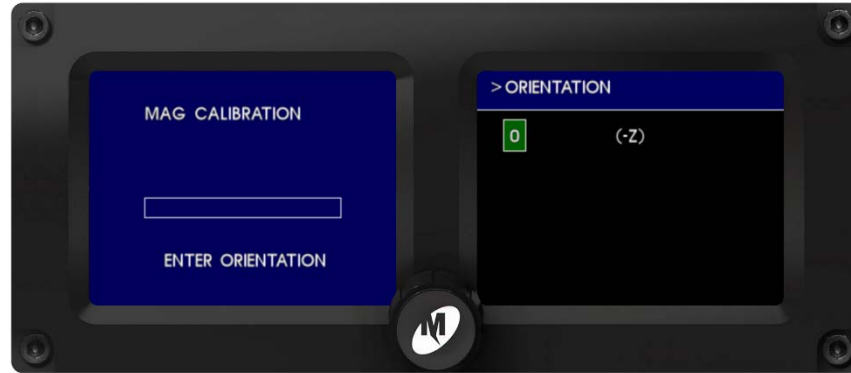
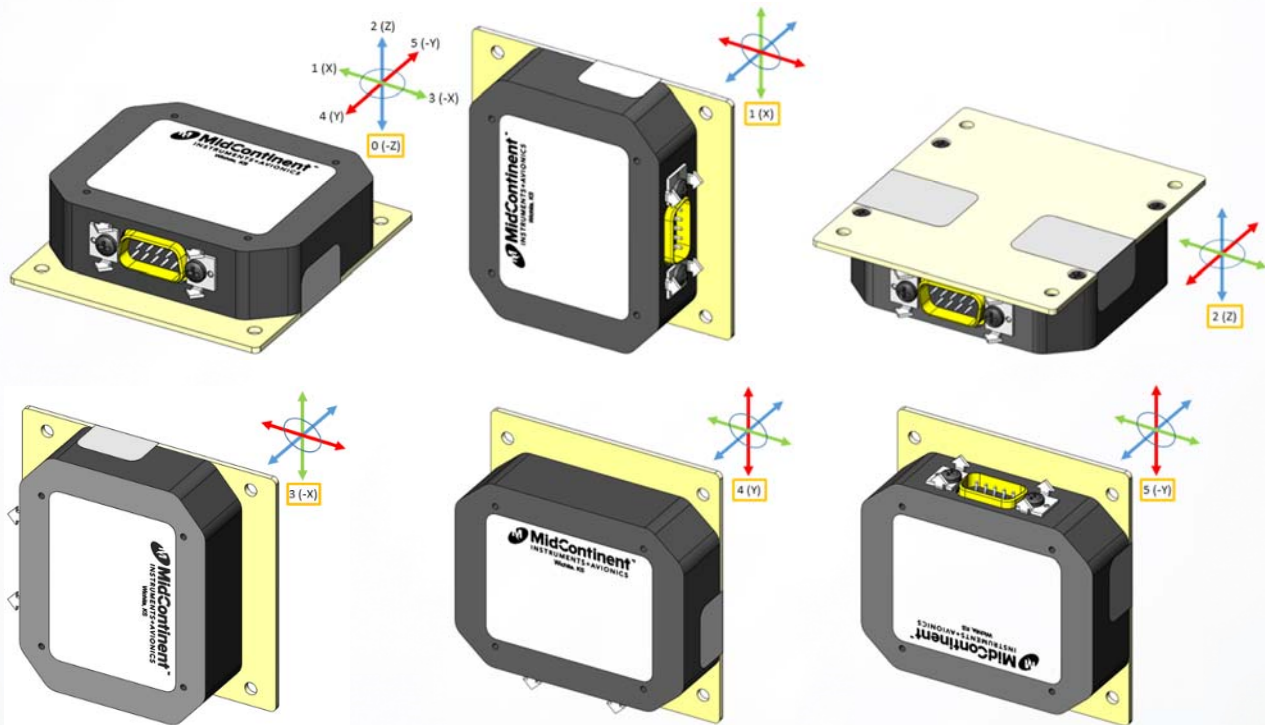

Figure 4.54
Figure 4.55
- b. The MD302 will request information about your remote magnetometer orientation. Select the option which best describes the mounting orientation of the MD32 remote magnetometer, with the selected axis pointing towards ground. (Figure 4.54 and Figure 4.55)